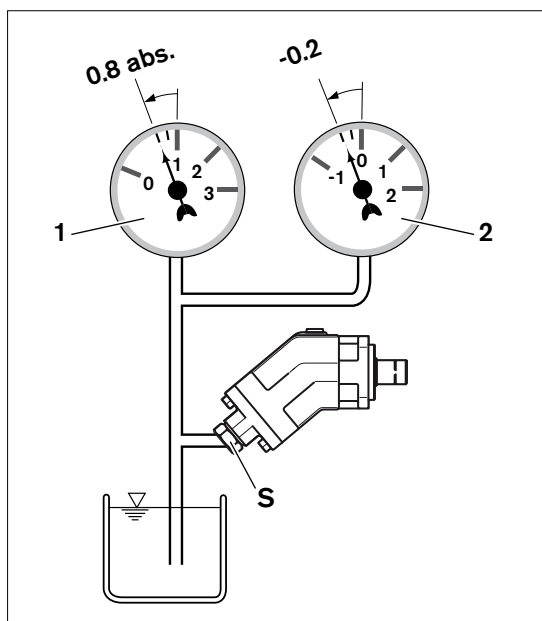

Fig. 7: Suction pressure
- Make sure that a minimum suction pressure of 0.8 bar absolute is present at port "S" during operation and on cold starts in all installation positions and installation locations for the axial piston pump, see Fig. 7. See data sheet for additional values.